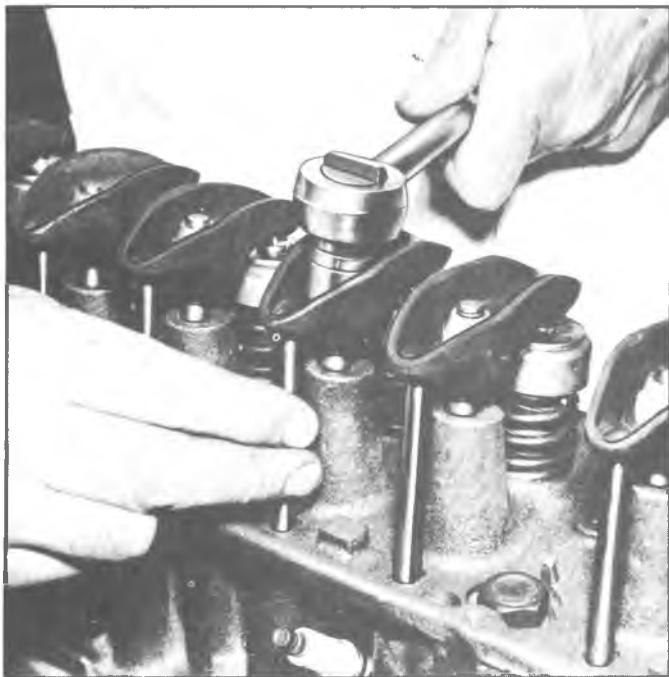

Fig. 6L—Valve Adjustment
c. Back out adjusting nut until lash is felt at the push rod then turn in adjusting nut until all lash is removed. This can be determined by checking push rod side play while turning adjusting nut (fig. 6L). When play has been removed, turn adjusting nut in one full additional turn (to center lifter plunger).